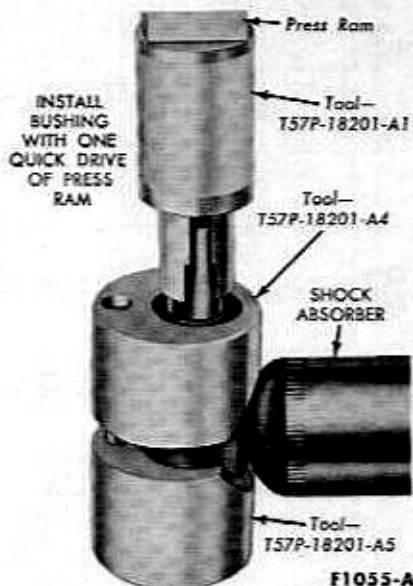

FIG. 17—Shock Absorber Bushing Installation
1. Apply RuGLYDE or a comparable lubricant to the lower bushing, and install the bushing on the shock absorber (Fig. 17) with one quick drive of the press arm.